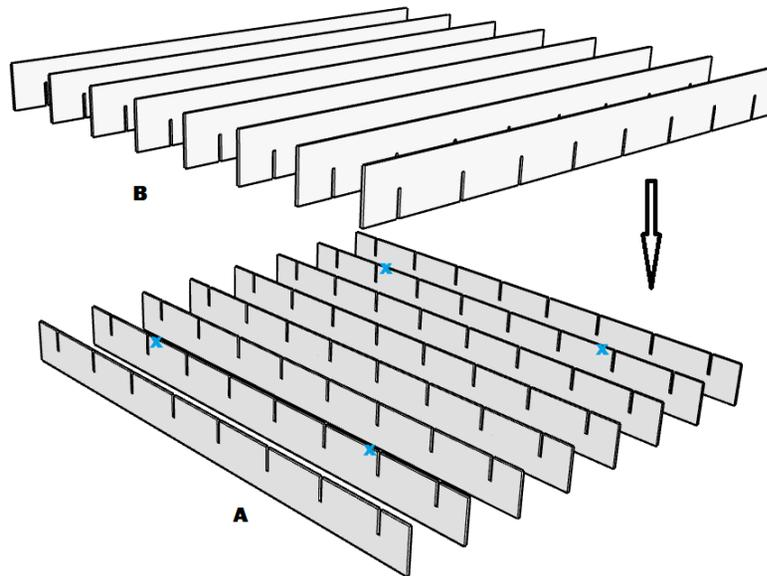
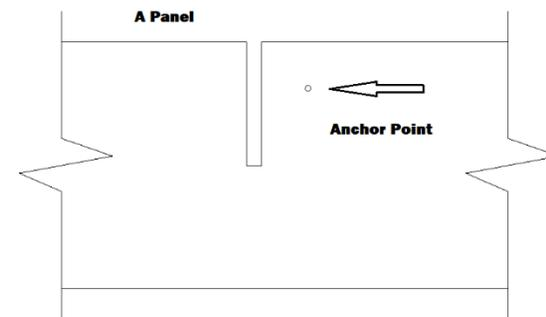

Figure 1
Figure 2
1. Starting with "A" panels, locate the pieces with pre-drilled anchor points and place them in the appropriate location. (Typically no further than 24" from edge and no greater than 60" apart, as depicted with a blue "x" in Figure 1, see also Figure 2 for reference.)